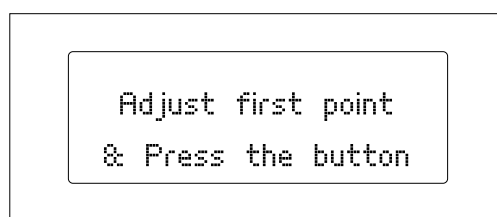

Figure 3.12 First levelling point
- 2 The extruder will first position itself at the reference point (the rear right-hand corner), then immediately move to the first levelling point (fig. 3.12). Check the space between the base and the extruder using the sheet of paper, and (if necessary) adjust it by turning the screws located underneath the print base. Turn them to the right to move the base away from the extruder, and to the left to move it closer. The sheet of paper should just about be able to pass between the base and the extruder nozzle.